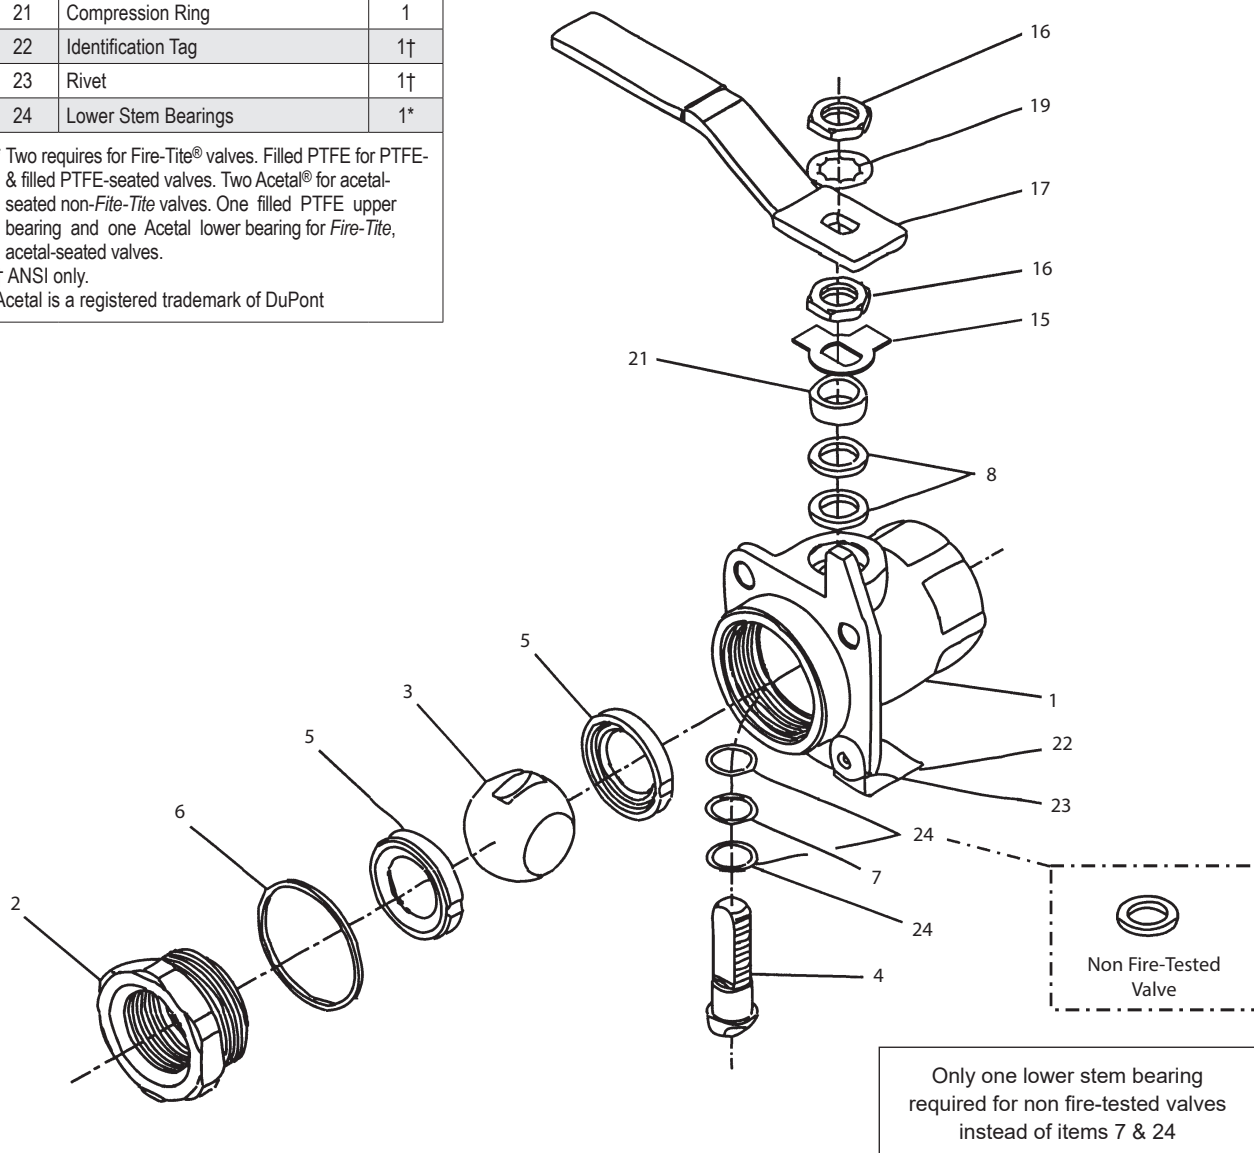

Figure 2.
1. Clamp the valve body (1) securely in a vise, place one seat (5) into the body with the flat surface of the seat on the bottom (**See the exploded view diagram, Figure 2**).
2. Insert from the inside a stem bearing (24), a *Fire-Tite* seal (7), and another stem bearing (24) into the lower stem bore. For non-Fire-Tested valves use one stem bearing (24) (**See note under the parts list in Figure 2**).
3. Insert the stem (4) through the open end of the body (1), being careful not to scratch the stem bearings and stem bearing surfaces. Press it gently up into the stem hole.
4. Holding the stem (4) in place from the bottom, insert the upper stem seals (8), drop on the compression ring (21) and the stem nut lock (15).
5. Screw on the stem nut (16) and torque to the value shown in (Table 1).
7. Attach the handle (17), the lockwasher (19), and secure them with stem nut (16). (**See Table 1 for torque value**).
8. Insert the ball (3), rotating it onto the stem (4) in the closed position. If necessary, turn the stem blade to align with the ball slot.
9. Insert the second seat (5) into the body (1) so that the sealing surface of the seat is towards the ball. (**See the exploded view diagram, Figure 2**). Apply Loctite® 270® or equivalent, one bead 260° around the body cap (2) covering a minimum of two threads.
10. Place the body seal (6) in the body against the shoulder located just beyond the body threads.
11. Insert the body cap (2), screw it down and tighten to the required torque shown in (Table 2). A small gap between body and body cap after assembly is normal. This insures adequate metal/metal contact of the body cap with the body.
- c. From **Figure 2**, the ballooned part number, part name and quantity required.